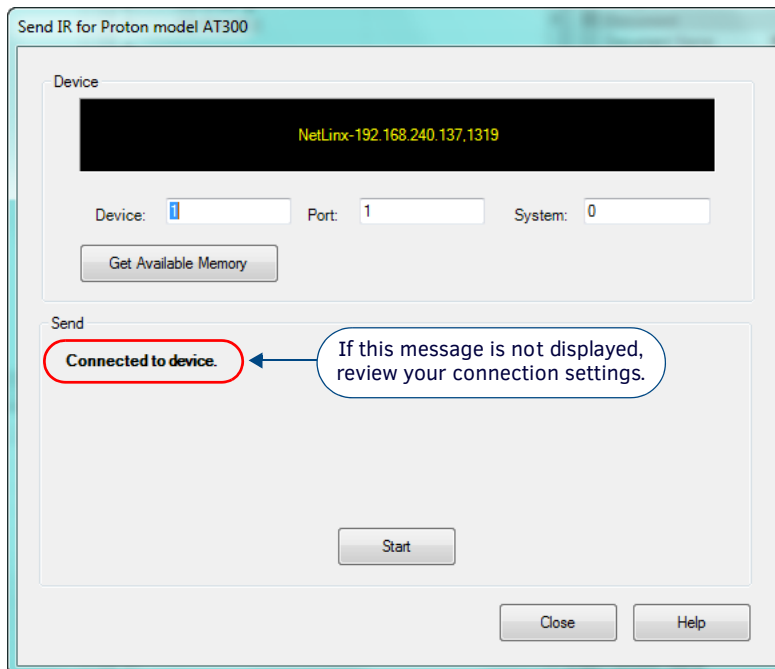

FIG. 52 Send IR dialog
3. Once the connection has been established, the *Send IR* dialog is opened (FIG. 52):
1. With your IR file selected in the Navigator window, select **Tools > Send**, to open the *Send IR* dialog (see FIG. 52 on page 35).